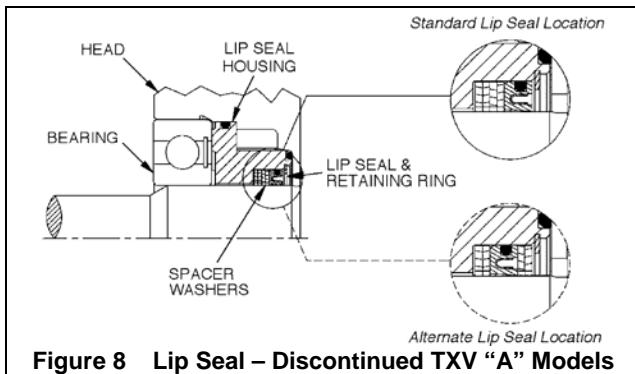
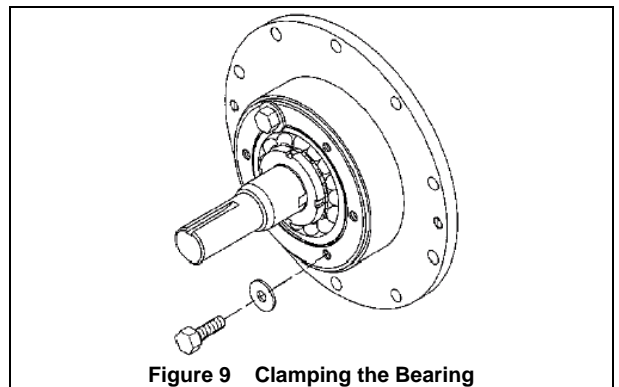

Figure 8 Lip Seal – Discontinued TXV "A" Models
Figure 9 Clamping the Bearing
- c. On TXV "A" model pumps, insert the spacer washers (152F) into the housing, then push the lip seal (152A) squarely into the housing (152B) with flat side of the lip seal against the spacer washers. The lip seal should seat flush or slightly recessed in the housing, around its **entire** diameter. **Note:** If necessary, the spacer washers can also be located *after* the lip seal, as shown in Figure 8, to re-position the lip seal on the pump shaft.
- e. Install new housing O-ring(s) (152C and 152E) in the groove(s) of the housing. Lightly grease the housing O-ring(s) and push the lip seal and housing assembly into the head recess with the lip seal inward. The lips of the lip seal will face the rotor when the housing is installed. Make sure the housing is bottomed out in the back of the head (20).
6. Hand pack the ball bearing (24) with grease. Refer to the "Lubrication" section for the recommended grease.
7. Install the bearing into the head recess. The bearing balls should face outward, with the grease shield inward. Ensure the bearing is fully and squarely seated against the lip seal housing or mechanical seal. Install two 3/8" (10 mm) washers and two bearing cover capscrews (28) to clamp the bearing and compress the lip seal housing for proper bearing locknut adjustment (see Figure 9). The washers and capscrews will be removed after the locknuts are adjusted.